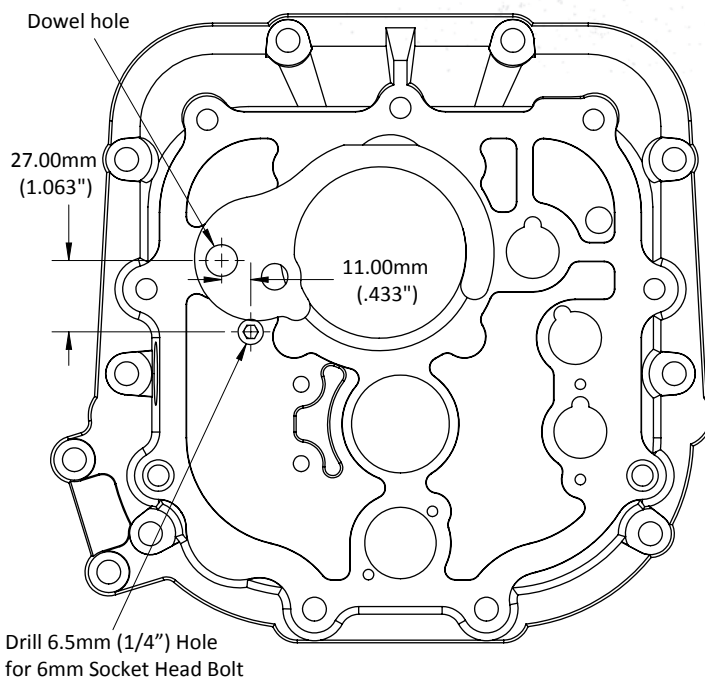

Figure 1: Rotation Stop in Gear Carrier Housing
You will need to install a 6mm socket head cap bolt in your gear carrier housing. The head of the bolt acts as a stop to keep the mainshaft bearing thrust plate from rotating. It is important that the head of this bolt fits snugly up against the edge of the thrust plate so that the plate cannot rotate downward. To install the bolt, a hole must be drilled through the housing in the specified location (see Figure 1).
4. Press the dowel shaft (with thrust plate attached) into the gear carrier housing. The dowel should be a tight fit, and care must be taken not to damage the parts. Align the thrust plate as shown in Figure 1, with the flat at the top of the plate parallel to the top of the housing.
5. Install the socket head cap bolt and secure it with the self locking nut, using a washer on each side of the housing. When the bolt is tight, the head should be right up against the thrust plate, as shown in Figure 1. This is what keeps the plate from rotating downward. If you don't get the bolt in the exact right position on the first try, it's OK to ovalize the hole a bit.